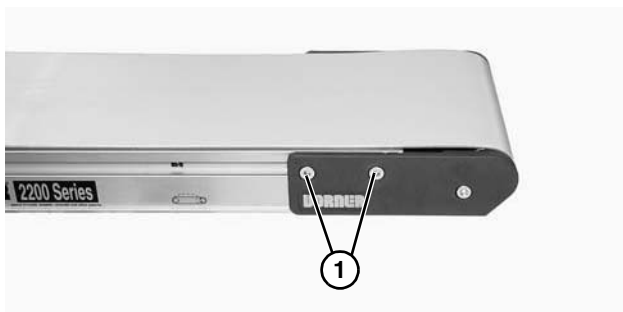

Figure 45
1. On one side of the conveyor, loosen two (2) head plate fastening screws (**Figure 45, item 1**) and remove them.